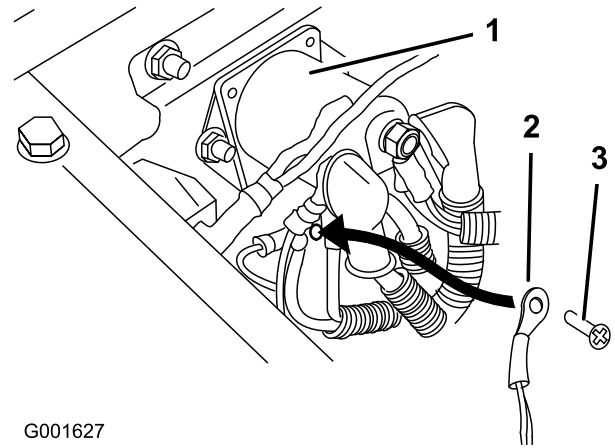

Figure 5
2. Remove one of the ground screws located under the solenoid (Figure 5).
3. Install the wire harness to the ground block with the previously removed ground screw (Figure 5).